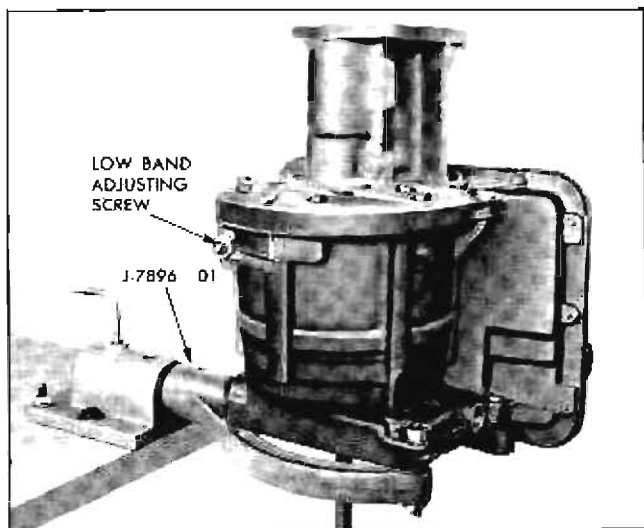

Fig. 7A-29 Transmission Mounted in Holding Fixture
4. Remove turbine drive shaft (Fig. 7A-28).